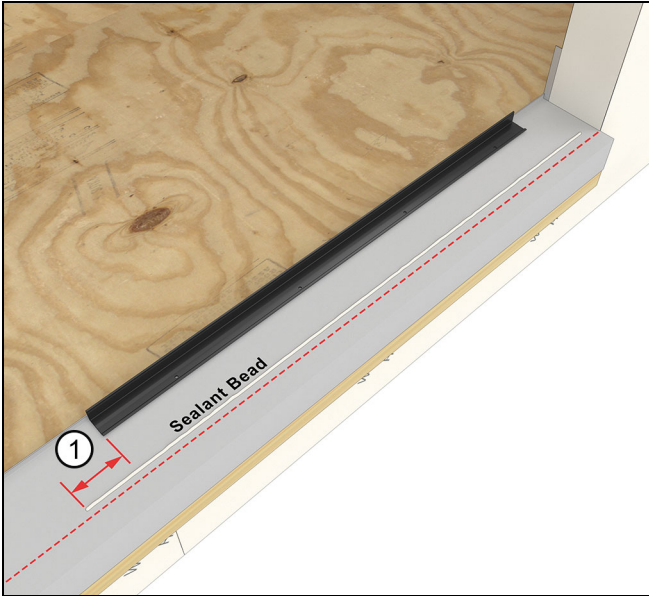

Figure 12
1. Lay a 3/8" bead of sealant on the inside edge of the sheathing line. Run the sealant about 2 1/2" past the edge of the first sill support (the sealant line should stick out about 1/2" once the first frame is installed. See Figure 12.